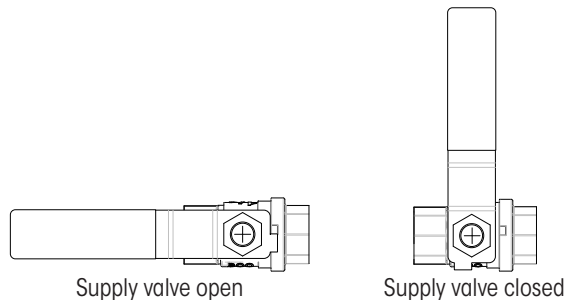

Figure 42: Supply Valve Operation
3. **Ensure** TIREMAAX supply valve (if equipped) is in open position (Figure 42).